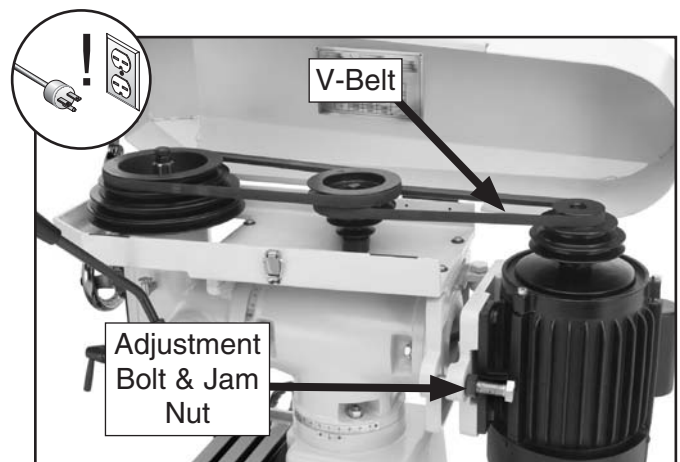

Figure 50. V-belt tension adjustment bolt.
2. Lift the V-belt cover, then loosen the adjustment bolt jam nut near the motor (see **Figure 50**).